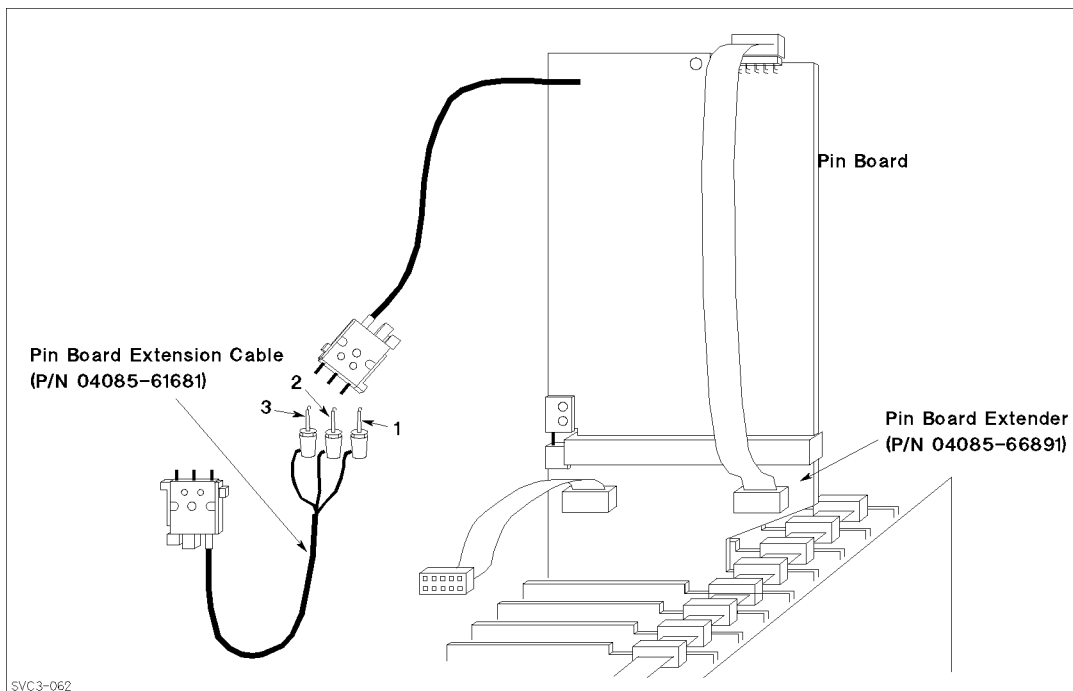

Figure 3-30. Extending Pin Boards
2. Using the pin board extractor, remove the required pin board(s), and extend the pin board as shown in Figure 3-30. The pin board extender and extension cable are included in the HP 4062 Product Support Package.